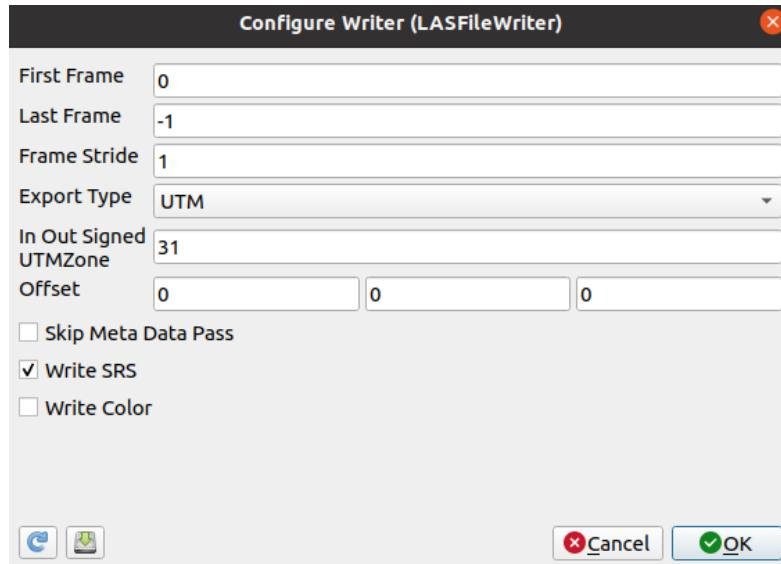

Figure 40: LAS Specific dialog : The single exported las file will contain all frames from “First Frame” to “Last Frame”
- A new configuration dialog may pop up. This is specific to the file format you asked for. (see **Figure 40** for the LAS specific dialog)